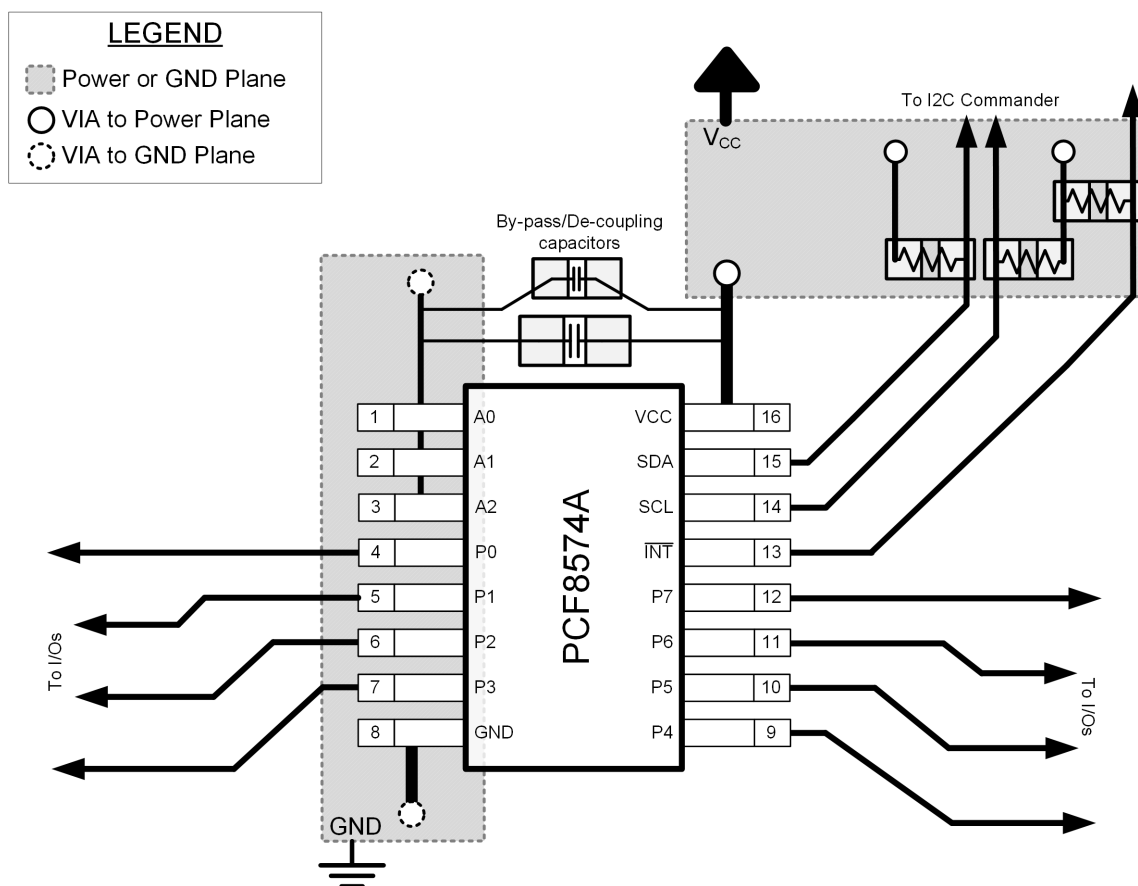

Figure 8-10. Layout Example for PCF8574A
When the I/Os are used to control LEDs, normally they are connected to V_{CC} through a resistor as shown in Figure 8-10. For a P-port configured as an input, I_{CC} increases as V_I becomes lower than V_{CC} . The LED is a diode, with threshold voltage V_T , and when a P-port is configured as an input the LED will be off but V_I is a V_T drop below V_{CC} .
In all PCB layouts, it is a best practice to avoid right angles in signal traces, to fan out signal traces away from each other upon leaving the vicinity of an integrated circuit (IC), and to use thicker trace widths to carry higher amounts of current that commonly pass through power and ground traces. By-pass and de-coupling capacitors are commonly used to control the voltage on the V_{CC} pin, using a larger capacitor to provide additional power in the event of a short power supply glitch and a smaller capacitor to filter out high-frequency ripple. These capacitors should be placed as close to the PCF8574A device as possible. These best practices are shown in Figure 8-10.
For the layout example provided in Figure 8-10, it would be possible to fabricate a PCB with only 2 layers by using the top layer for signal routing and the bottom layer as a split plane for power (V_{CC}) and ground (GND). However, a 4 layer board is preferable for boards with higher density signal routing. On a 4 layer PCB, it is common to route signals on the top and bottom layer, dedicate one internal layer to a ground plane, and dedicate the other internal layer to a power plane. In a board layout using planes or split planes for power and ground, vias are placed directly next to the surface mount component pad which needs to attach to V_{CC} or GND and the via is connected electrically to the internal layer or the other side of the board. Vias are also used when a signal trace needs to be routed to the opposite side of the board, but this technique is not demonstrated in Figure 8-10.